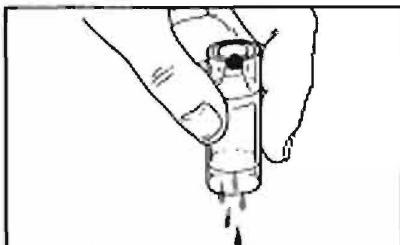

Figure 21. Decanting Supernatant.
- Set centrifuge timer for one (1) minute and centrifuge according to previous operating instructions.
- a. Uncap the SEDI-CAL Tube and decant supernatant by RAPIDLY and COMPLETELY inverting tube (Figure 21). DO NOT SHAKE. Approximately 0.2 ml of supernatant and sediment should remain in the bottom reservoir. Then IMMEDIATELY turn the tube right side up and replace cap.